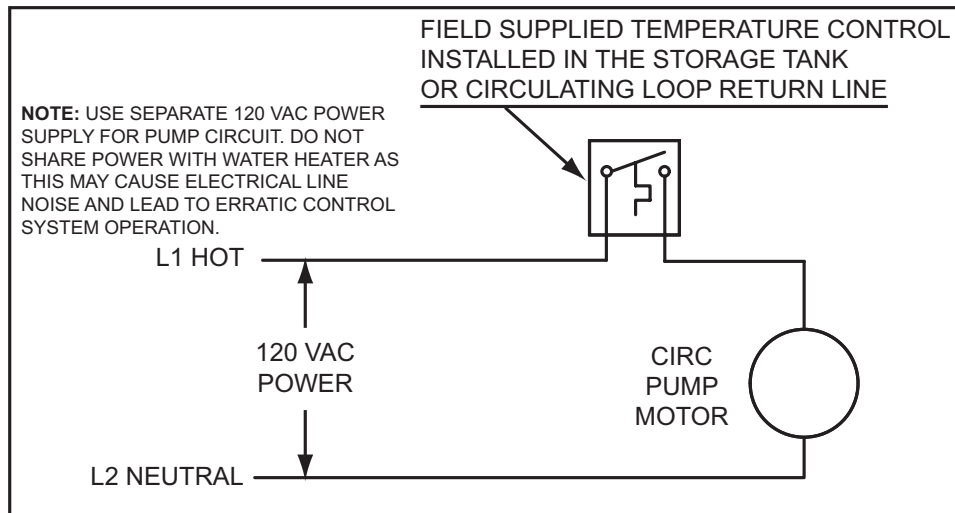

Figure 68
6. If a pump is being installed between a water heater and storage tank or on a building recirculation loop wire according to Figure 68 on page 70.
7. If a pump is being installed in a recirculation loop between the water heater and a commercial dishwasher wire according to Figure 68 or Figure 69 on page 70.